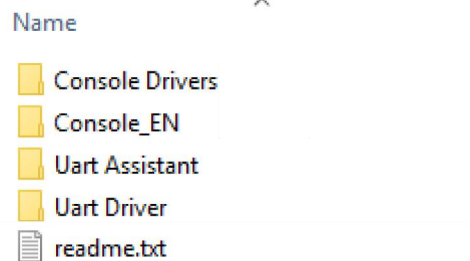
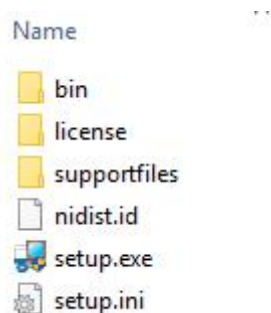

Fig.48 Software files
Fig.52 “SE1022_Console Drivers” File
The required software is provided with the CD disk as below in Fig.48.
Double-click "FT232_drive.exe" in Fig 49 in the fourth file "Uart Driver" in Fig.48.
- 1) You need to open the first file “SE1022_Console Drivers” in Fig.48 and start to install just as shown in Fig 52.
- 1) Open the second file “SE1022_Console_EN” in Fig 48. This file contains Chinese and English application software and they both can operate in Windows 7/XP.